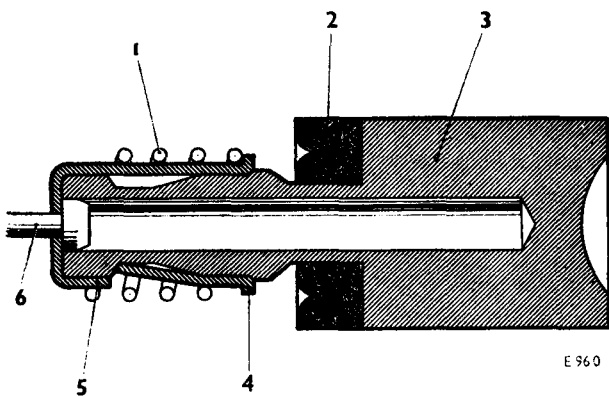

FIG. G40 LOCKING THE RETAINER
3. Care should be taken to ensure that the belleville washer is seated correctly and when the cut-off valve stem and spring retainer have been located on the plunger, the prong on the spring retainer must be depressed into the recess as shown in *Figure G40*.